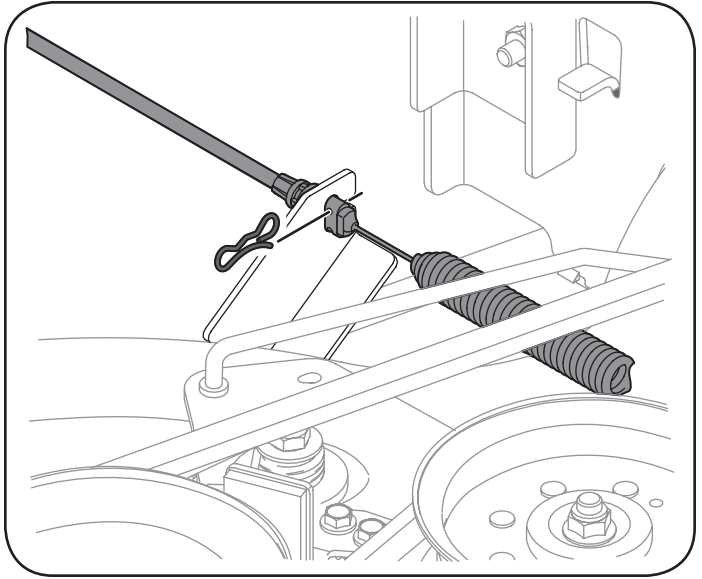

Figure 26
9. Carefully remove the PTO cable from the rear of the cutting deck by removing the bow-tie cotter pin which secures it. Remove the spring from the deck idler bracket. See Figure 26.